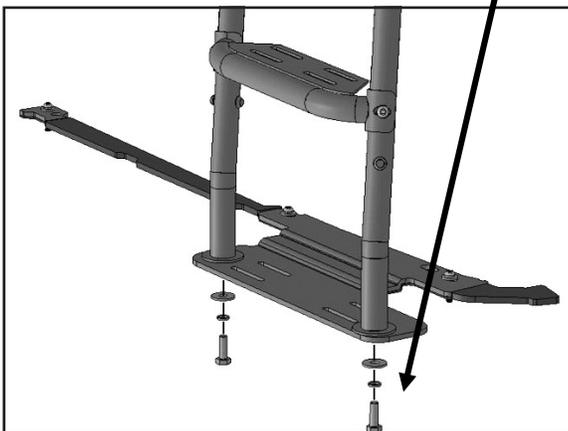

FIGURE 16
15. With assistance, carefully lift the rear Corner Assembly up and onto the rear Brackets. To prevent damaging the finish, refrain from sliding the ends of the tubes onto the brackets. Attach the Rear Corner Assembly to the driver/left rear Bracket with the included (2) 10mm x 30mm Hex Bolts, (2) 10mm Lock Washers and (2) 10mm Flat Washers, **(FIGURE 16)**. Leave hardware loose at this time. Repeat this Step to attach the passenger/right side of the assembly.